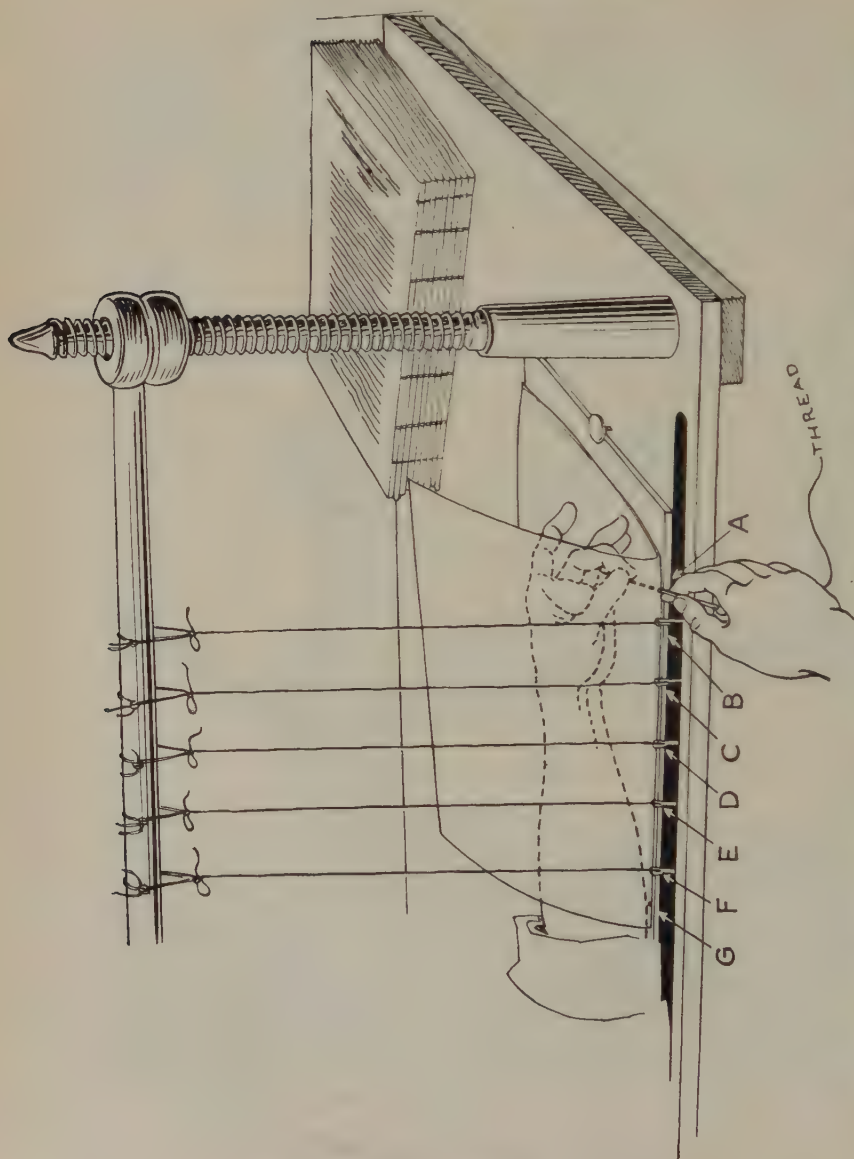

FIG. 164—THE SEWING FRAME IN USE, SHOWING ADJUSTMENT OF CORDS, POSITION OF MATERIAL TO BE SEWN AND OF OPERATOR'S HANDS WHILE SEWING
Fasten it in position with thumb tacks to prevent slipping. This board is to facilitate easier passage of sewing needle through sections first sewn close to frame base. (See Fig. 164.)
at (B), *but on left* side of cord, close to cord; grasp needle again with left hand and pass it out again at (C), on the *right* hand side of cord (C); repeat process as at (B). Continue across entire length of section and *come out finally* at kettle-stitch groove (G). This calls for use of right and left hands alternately. See Figs. 164 and 171.
11. Place the second section in position as you did the first, place left hand inside section to hold it and operate needle. Pass the needle in at (G) on this second section, along the inside of section to (F) out on the left side of band or cord; in again on right side of cord and repeating process at (E), (D), (C), and (B) come out at (A).